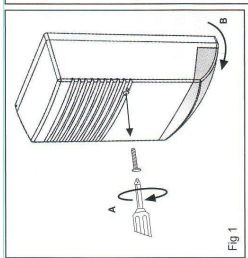
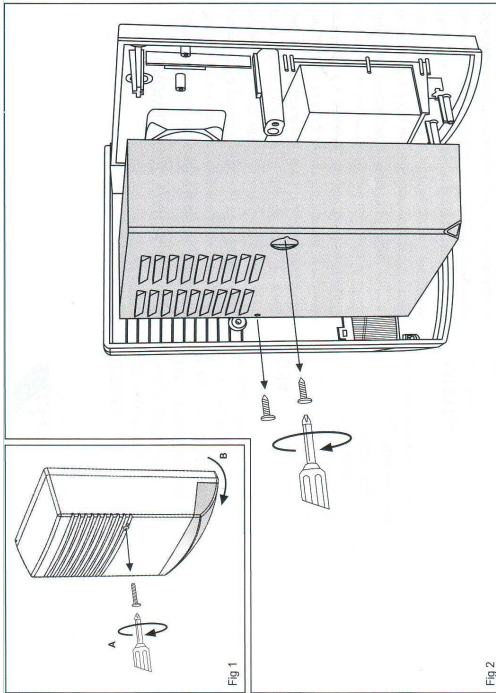

Fig 1
Fig 2
- Open the siren housing (1 screw on the front), fig. 1 and remove the metal cover (2 screws), fig. 2.
- Unplug the terminal(5) on the siren driver